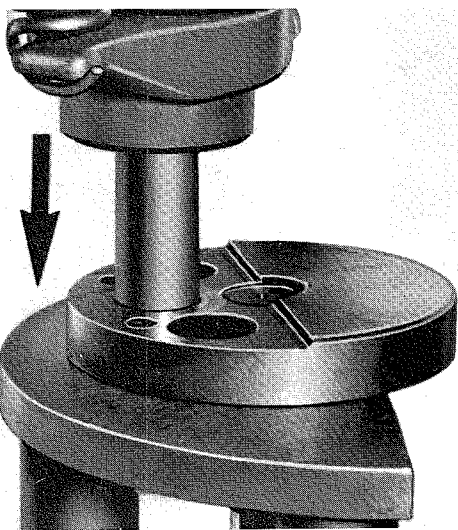

Fig. 5
4. Press the crank pin into one of the crank discs from inside. See fig 5.